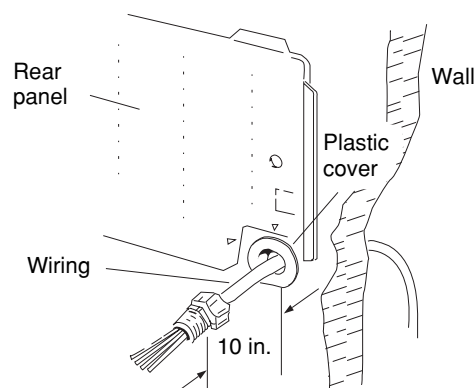

Fig. 3-32
- (1) Insert the inter-unit wiring (according to local electrical codes) into the through-the-wall PVC pipe. Run the wiring toward the indoor side allowing approx. 10 inches to extend from the wall face. (Fig. 3-32)